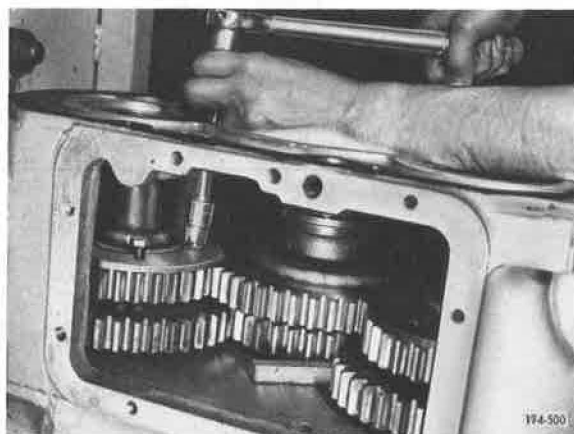

Figure 92. Removing Capscrews
8. Remove countershaft gear retaining thrust washer capscrews. So that gears cannot turn, place a soft iron wedge between gear teeth. See Figure 92.